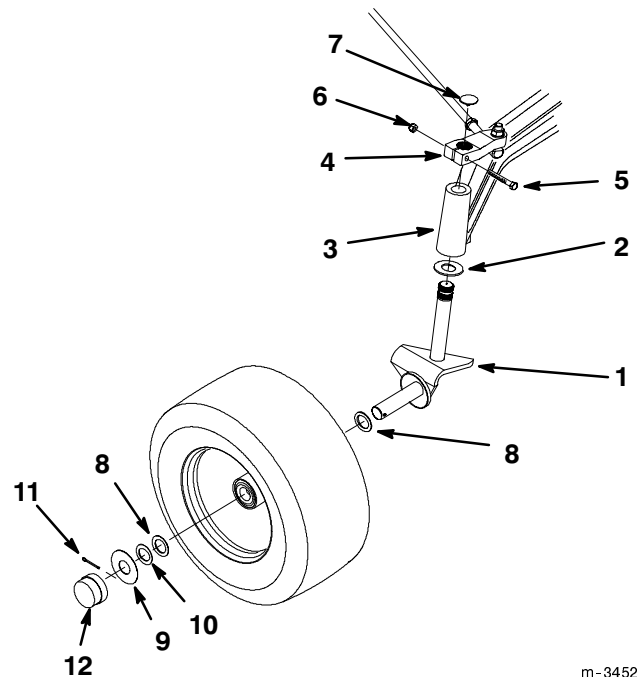

Figure 4
3. Install a 1.56" O.D. x .06" thick unplated thrust washer onto the splined shaft of the R.H. wheel spindle (Fig. 4).
4. Install the splined end of the R.H. spindle through the R.H. end of the front axle and into the steering arm (Fig. 4).
5. Secure the spindle shaft to the steering arm with a 5/16"-18 x 2.25" bolt and 5/16" nut (Fig. 4). Torque the nut to 230 ± 25 in-lbs.
6. Insert a 1.50" O.D x .05" thick plated wheel washer onto the R.H. spindle (Fig. 4).
7. Install a front wheel onto the R.H. spindle with the valve stem facing inward (Fig 4).
8. Insert another 1.50" O.D x .05" thick plated wheel washer onto the R.H. spindle (Fig. 4).
9. Install a 2.50" O.D x .05" thick hub cap washer onto the spindle. Now insert a .156 x 1.50" long cotter pin into the hole in the spindle (Fig. 4).
12. Install a hubcap onto the hubcap washer until it snaps in place (Fig. 4).
- 14.** Insert a spindle cap into the steering arm (Fig. 4).